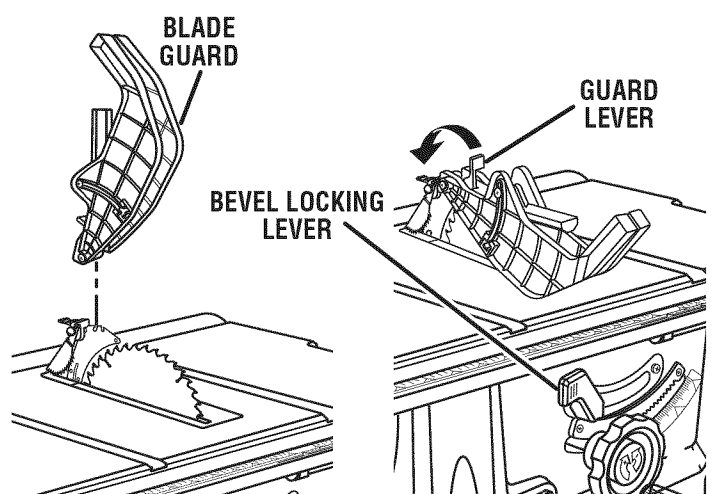

Fig. 14
- Make sure the bevel locking lever is securely pushed to the left, *see Figure 14*. Raise the saw blade to its full height by turning the height/bevel adjusting handwheel clockwise.